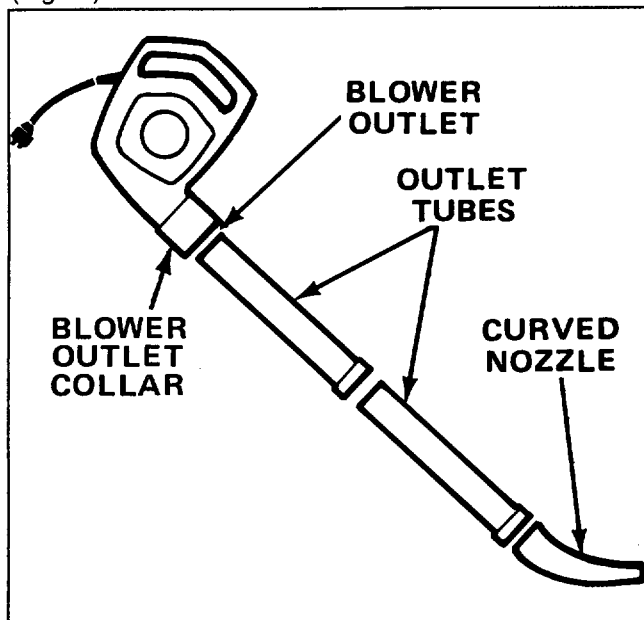

Figure 1
1. Thread outlet tubes together with a twisting motion (Fig. 1).
2. Thread assembled tubes into blower outlet (Fig. 1).
1. Turn off unit and unplug from electrical outlet. Remove blower tubes (Fig. 1). Do not attempt to remove outlet collar.